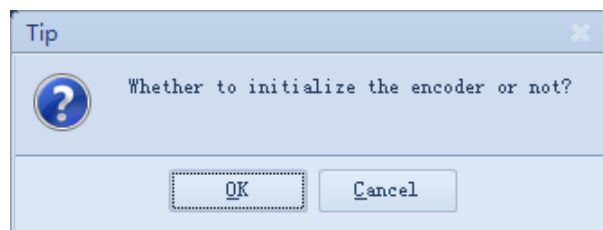

Fig. 10-2 Encoder initialization confirmation dialog box
1. Click “Encoder clear” in the pull-down list of “Other”. A confirmation dialog box will pop up (see Fig. 10-2).